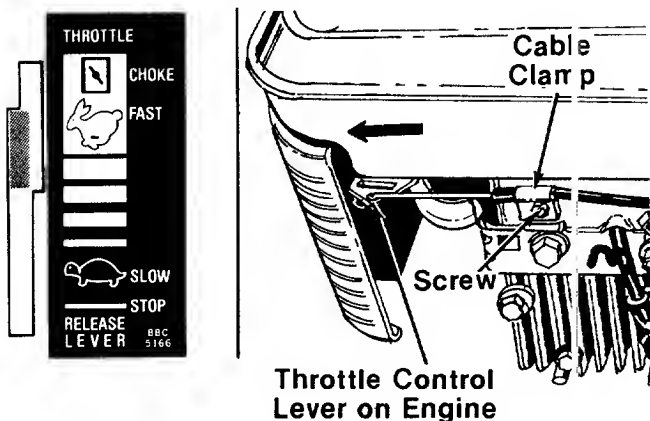

FIGURE 9.
11. Move throttle control lever on the handle forward until it stops in "Fast" position. (**Do not** push all the way forward to "Choke" position.) See figure 9.
12. Slide the throttle control lever on the engine as far toward the outside of the engine as it will go **easily** as shown in figure 9. (**Do not** force it into the extreme outside position, which is the "Choke" position.)
13. The throttle control cable is attached to the upper handle. Hook the "Z" end of the throttle control cable into the hole in the control lever on the engine. See figure 9.